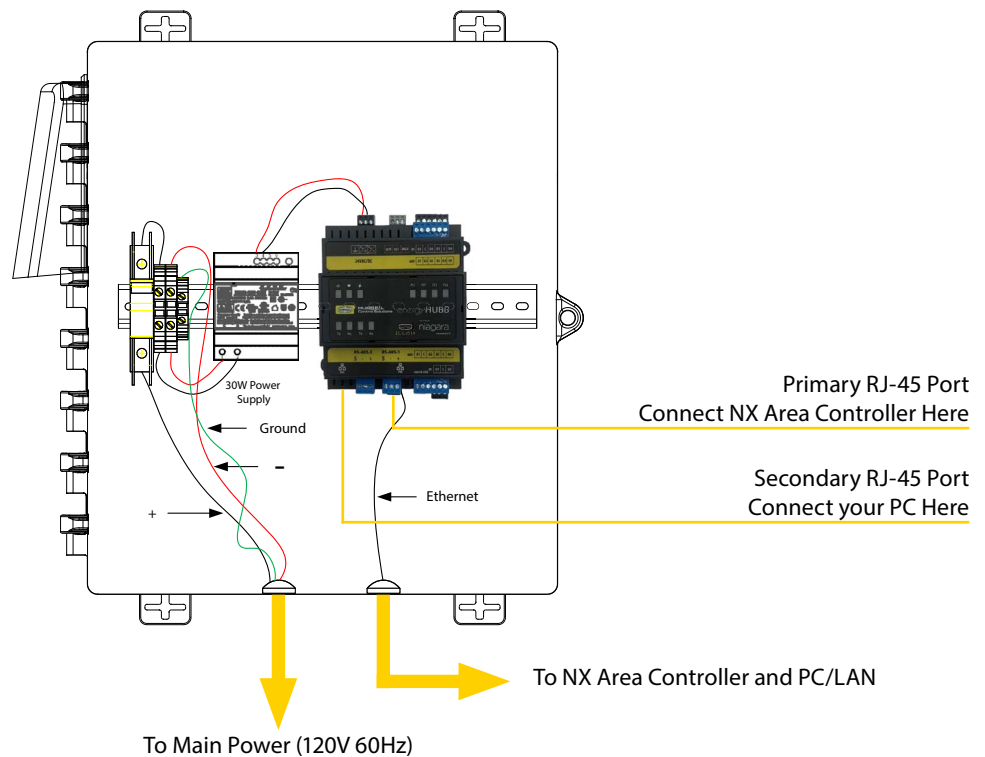

Figure 3: Key Access Points
8. Connect one end of your CAT5e Ethernet cable to the RJ-45 port and the other end to the Ethernet port on the NX Area Controller. See Figure 3 & 4.
9. Use the second Ethernet port on the NX energyHUBB module to connect your PC. See Figure 3 & 4.
10. Route the Ethernet and power cables through the provided knock-outs as shown in Figure 3.